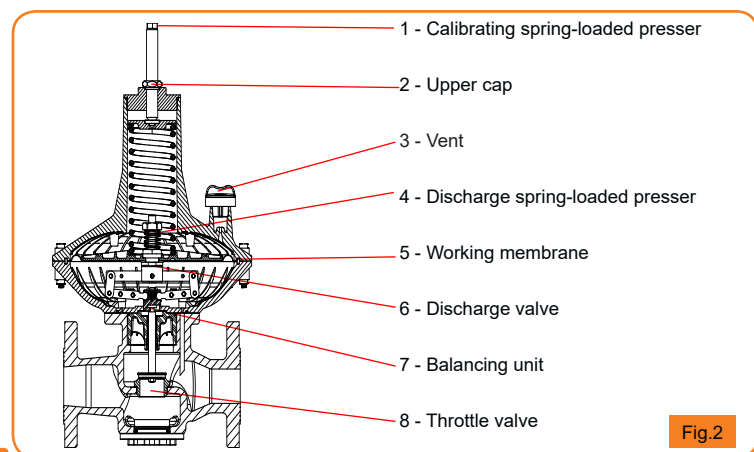

Fig.2
To release the spring-loaded presser, unscrew the upper cap (2) Fig.2.
The outlet pressure is regulated by rotating the spring-loaded presser (1) Fig. 2. Rotate the spring-loaded presser clockwise to increase the pressure, or anti-clockwise to reduce it.